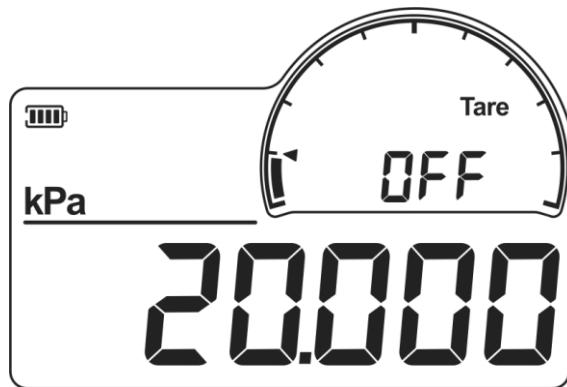

Figure 8 Tare settings
1. In main display, long press Unit key to switch the display items in the sub display area, and switch to the Tare setting item, as shown in Figure 8. The Tare icon does not flash under the Tare setting item, and the sub display shows OFF to indicate that the Tare function is turned off.